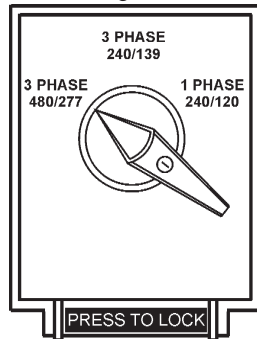

Figure 26. Voltage Selector Switch 480/277V Three-Phase Position
1. Place the voltage selector switch in the 3Ø 480/277 position as shown in Figure 26.